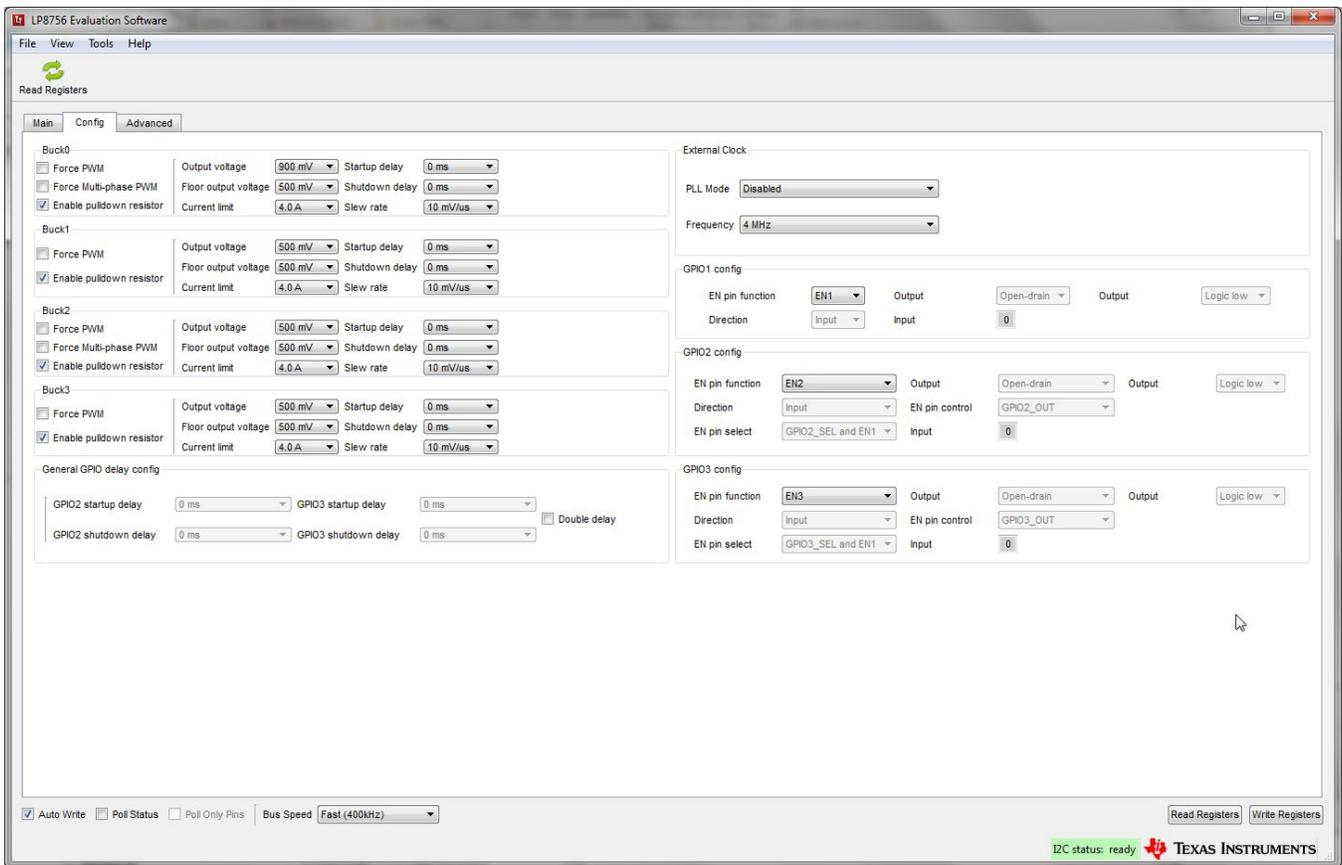

Figure 9. Config Tab of the LP8756 GUI
3. If using the default part installed on the board (LP8756x0RNFRQ1), the device should be configured next using the Config tab (see Figure 9). If a different part number is installed on the board, the default settings should already be configured.